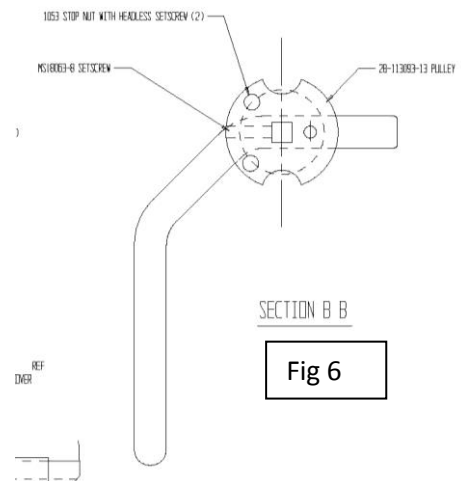

Fig 6
- 2.5. Remove the handle from the pulley. Turn the inside handle so the internal wrenching screw can be accessed, and loosen the screw. (Fig 6)